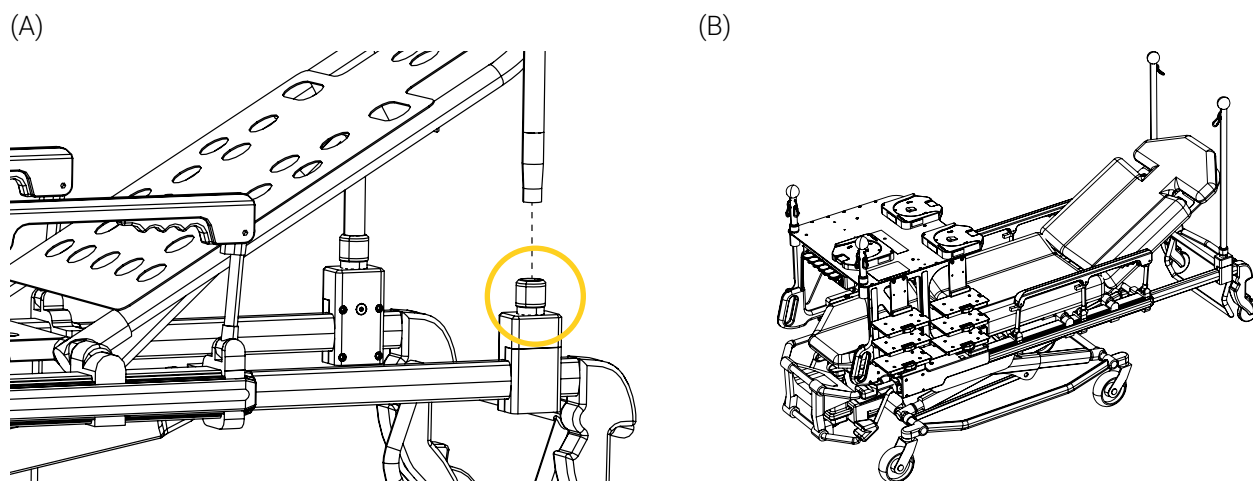

Figure 54: Installing the 32 in. (81 cm) push bars on the stretcher
6. Rotate one (1) of the two (2) collars of the push bar clamp block about a quarter of a turn counterclockwise to loosen, then insert a push bar in the clamp block (Figure 54 A).
7. Rotate the collar about a quarter of a turn clockwise to tighten and secure the push bar (Figure 54 B).